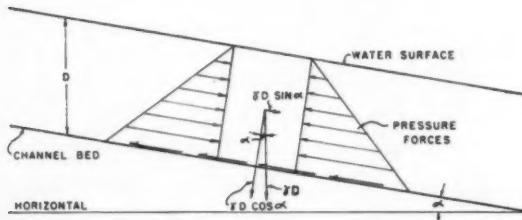

Fig. 1 Tractive Force diagram
The tractive force theory originally was introduced by Du Boys who presented an equation which evaluated the tractive force of flowing water from the geometry of the channel and water surface profile (4). The method entailed the evaluation of forces that must act on any free body of water within the channel. A free body of water of unit width and length as shown in Fig. 1 is considered for an open channel of infinite width with uniform flow. In order that this free body might be in equilibrium, the summation of forces acting on it must be zero. These forces consist of the weight of the free body, the pressure forces acting on the sides of the free body, and the boundary shear of the moving water. Resistance to flow offered by the air above the water is ignored. Pressure forces are merely opposed by similar forces on the opposite side of the free body, and the component of weight normal to the channel bed, $\gamma D \cos \alpha$, where γ is the specific weight of water, is opposed by the bed itself. However, the component of weight parallel to the channel bed, $\gamma D \sin \alpha$, is opposed by the boundary shear of the moving water. This boundary shear is the tractive force, T .